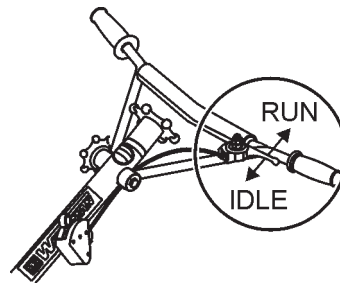

Figure 22. Throttle (Idle Position)
2. Move the throttle lever (Figure 22) to the "idle" position.